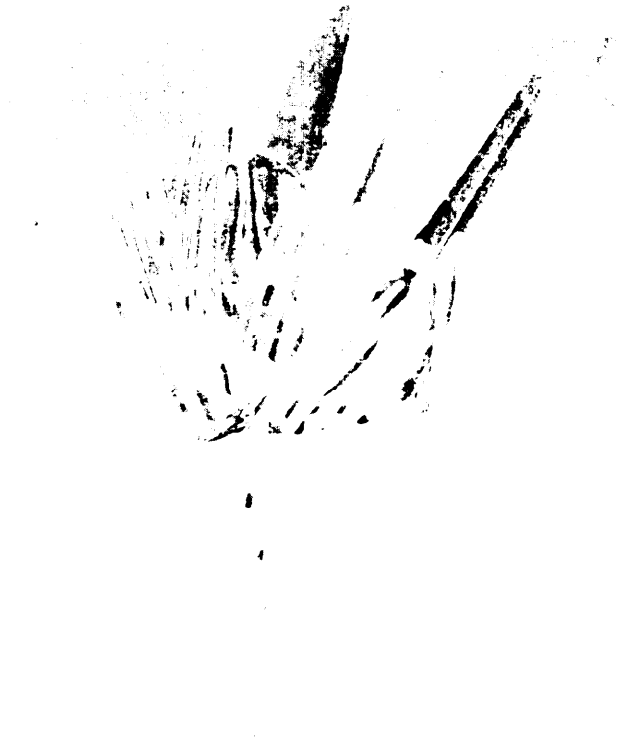
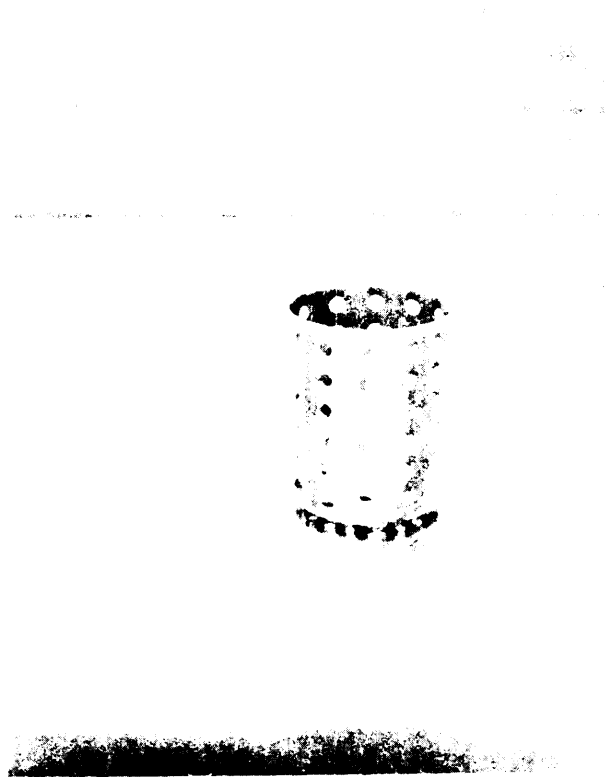

Figure 29 - Cylinder, Flatware (Plastic)
Figure 30 - Cylinder, Flatware (Corrosion-Resisting Steel)
b. Sorting and racking.- Place approximately 15 assorted pieces of flatware (knives, forks, and spoons), "handles down", into flatware cylinders, FSN 7320-708-9568 (Figure 29) or FSN 7320-708-9580 (Figure 30). The flatware cylinders are then put in a flatware cylinder washing and transporting rack, FSN 7320-708-9540, and then placed in a flatware rack, FSN 7320-926-6658, for initial washing. Do not overcrowd flatware in the cylinder because water must reach all surfaces of each piece.